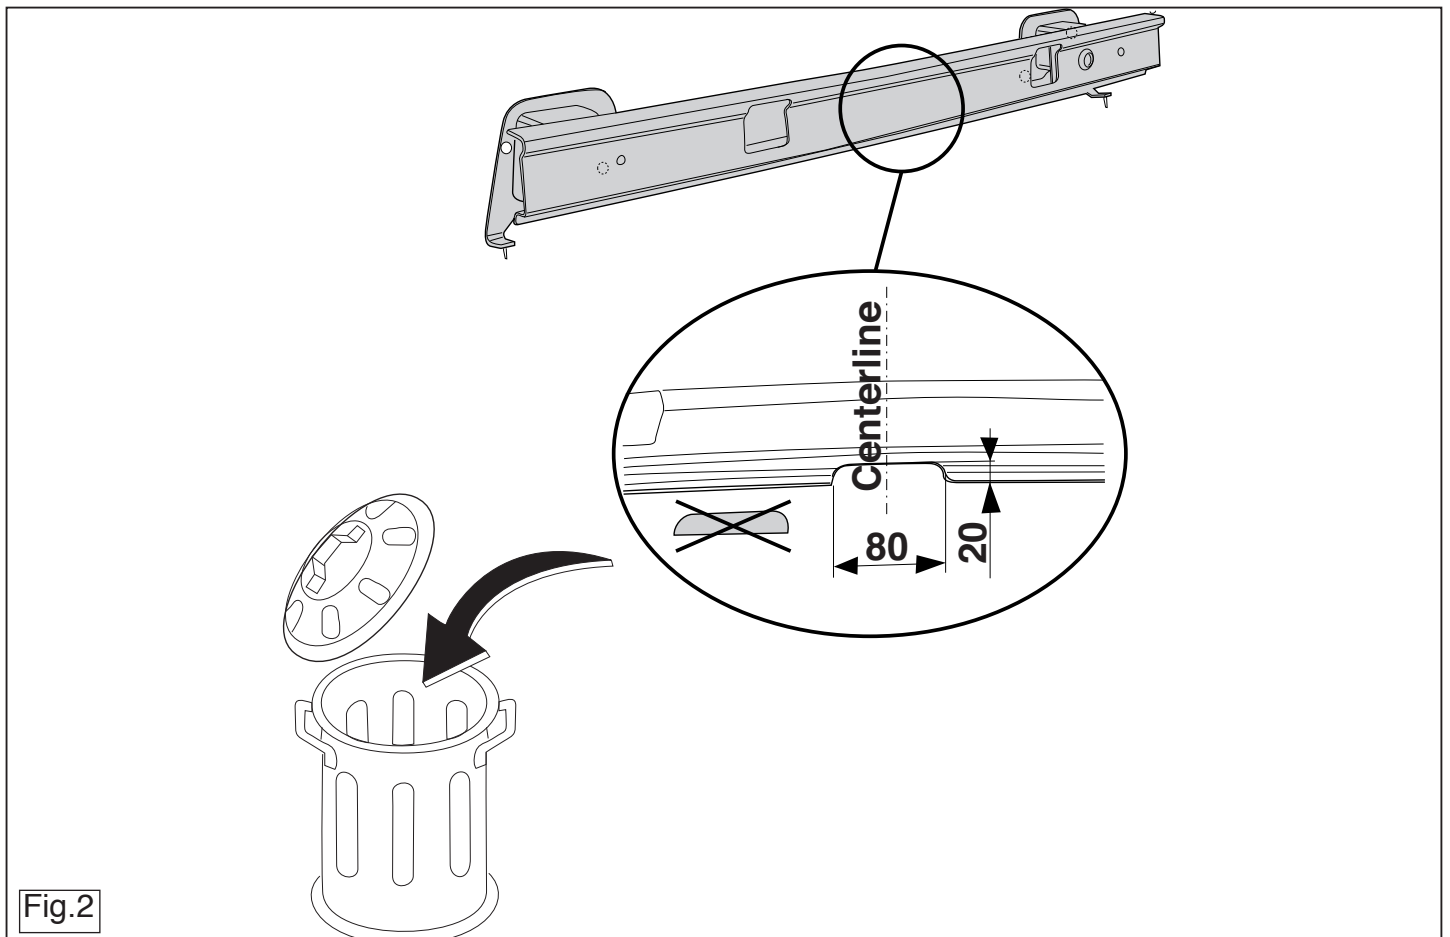

Fig.2
3. Saw out from the bumperinnerwork the section indicated in accordance with fig. 2.